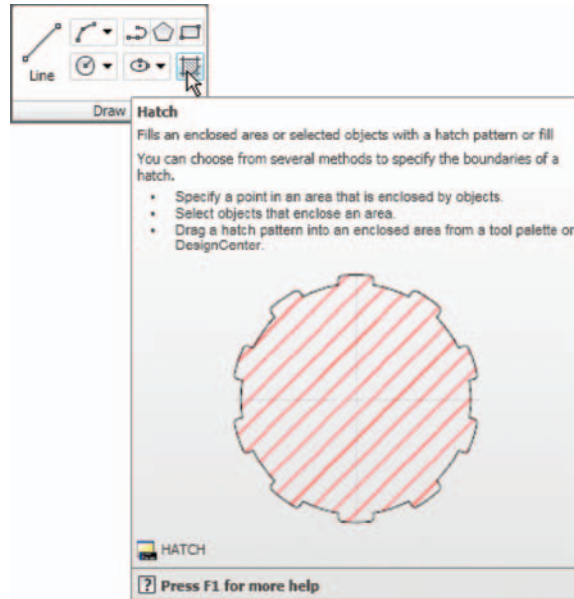

Fig. 7.11 The Hatch tool icon and tooltip from the Home/Draw panel
1. Call the **Hatch** tool – either *left-click* on its tool icon in the **Home/Draw** panel (Fig. 7.11), *click* the tool in the **Draw** toolbar, or *enter h*